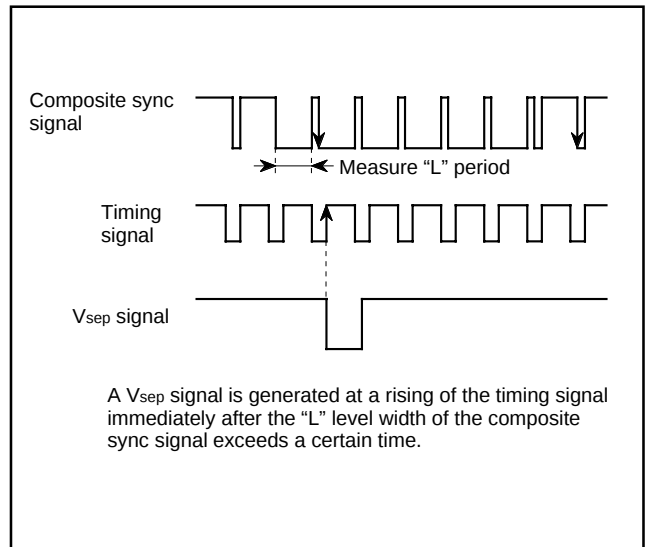

Fig. 8.10.6 Vsep Generating Timing (method 2)
- Method 2 The "L" level width of the composite sync signal is measured. If this width exceeds a certain time, it is detected whether a falling of the composite sync signal exits or not in the "L" level period of the timing signal immediately after this "L" level. If a falling exists, a V_{sep} signal is generated in synchronization with the rising of the timing signal (refer to Figure 8.10.6).
Figure 8.10.6 shows a V_{sep} generating timing. The timing signal shown in the figure is generated from the reference clock which the timing generating circuit outputs.